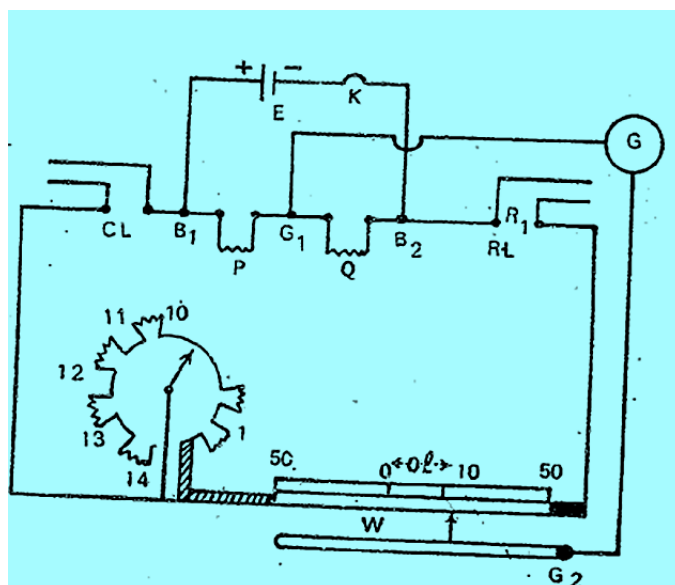

Figure 1
**THEORY :** Callendar and Griffith's pattern bridge. For work at the undergraduate level such a piece of apparatus is manufactured. By Instrument & Chemicals Ltd. Ambala. The circuit diagram of the bridge is given in figure 1.